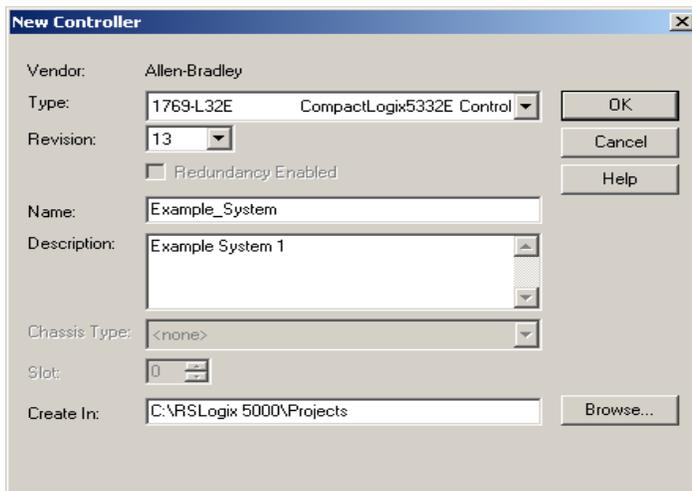

Figure 3 Example system “New Project”
- Select the correct PLC/Controller and system descriptions for the example system being created. See Figure 3.